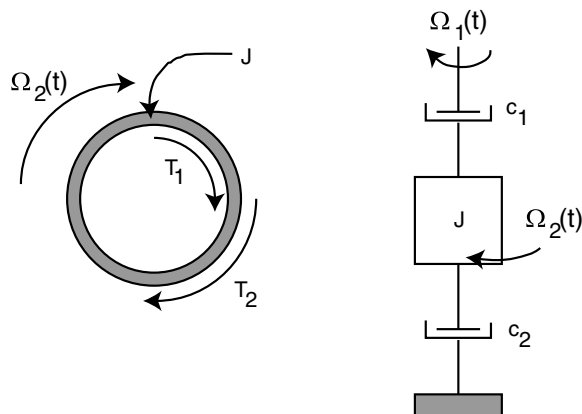

Figure 2: Freebody diagram of Inertia and Schematic of system.
a.) The free body diagram for the inertia is shown in Figure 2 along with a schematic of the dynamic elements in this problem. As can be seen, the inertia has two torques acting on it:  $T_1$  generated by the damper  $c_1$  between the input and the inertia and  $T_2$  generated by the damper  $c_2$  between the inertia and ground. The schematic drawing is helpful but not required in the solution.